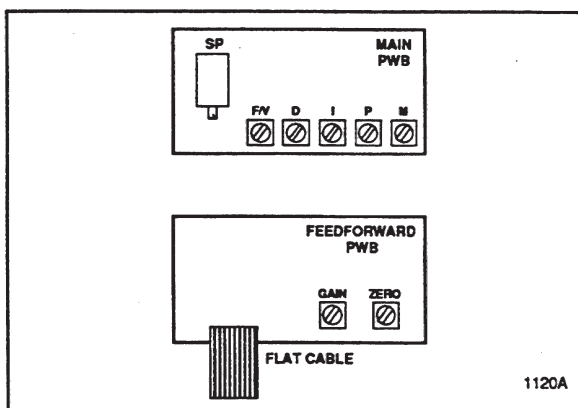

FIGURE 7. Location of setpoint trim potentiometers on the Controller's main printed circuit board.
1. With the system fully connected, remove the controller's cover and locate the row of trim potentiometers on the main board and feedforward trim on the secondary board (if used). They are located near the plastic end cap. See Figure 7.